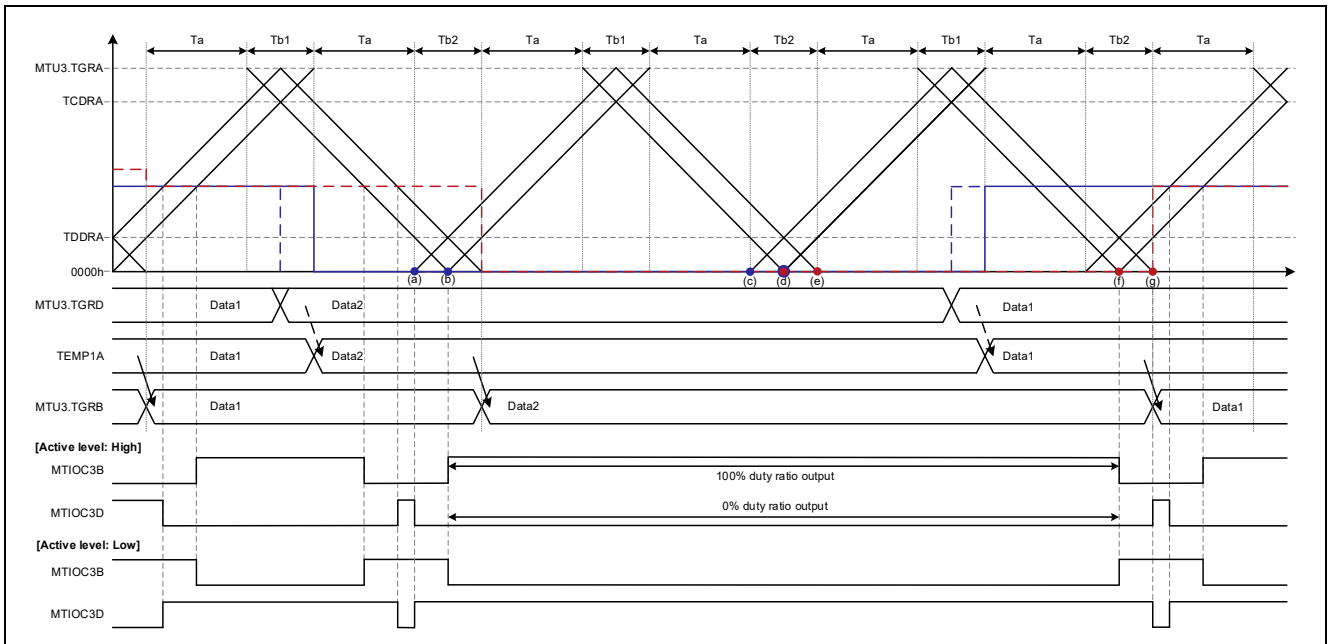
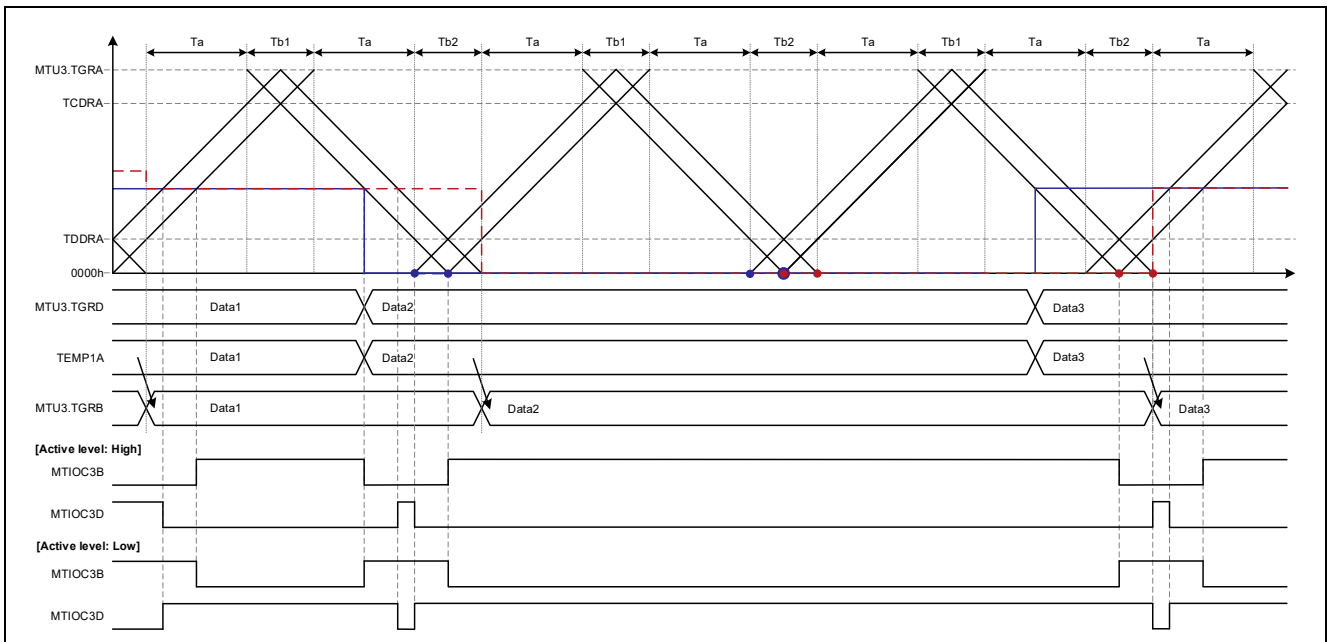

Figure 1.11 Complementary PWM Mode 2 Operation Example
Figure 1.12 Complementary PWM Mode 2 Operation Example
Of the 0% and 100% duty cycle waveform output operation examples in each MTU operating mode listed in Table 1.6, Figure 1.11 to Figure 1.14 illustrate the 100% duty cycle output operation examples.
- [Operation example 1] Figure 1.11, Complementary PWM Mode 2, Output Start: Trough, Tb Interval Overwrite
- [Operation example 2] Figure 1.12, Complementary PWM Mode 2, Output Start: Trough, Ta Interval Overwrite
Figure 1.11 shows an operation example of buffer overwrite in the Tb1 interval (crest) in complementary PWM mode 2.
Figure 1.12 shows an operation example of buffer overwrite in the Ta interval in complementary PWM mode 2. Except for the difference in the buffer overwrite timing, the operation is the same as that shown in Figure 1.11.